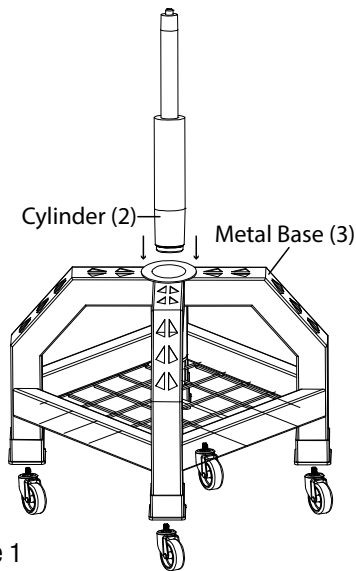

Figure 1
1. Take the cylinder (2) and install it into the top of the metal base (3). Be sure to center the cylinder (2) correctly when installing and firmly seat it into the base. (Figure 1)